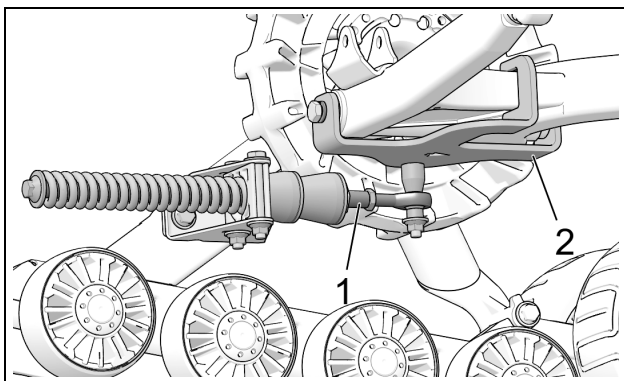

Figure 15
- Stabilizing arm (1) must be attached to rear anchor bracket (2) installed on vehicle. See Figure 15.
**NOTE:** Actual Rear Anchor bracket (2) installed on vehicle may differ from the one in the illustration.